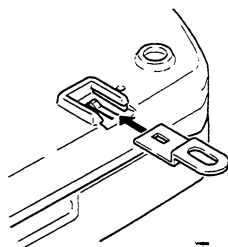

Figure 10: Mounting Bracket Installation
20. Install the four (4) mounting brackets to the underside of the “A” cartridge as shown in Figure 10.